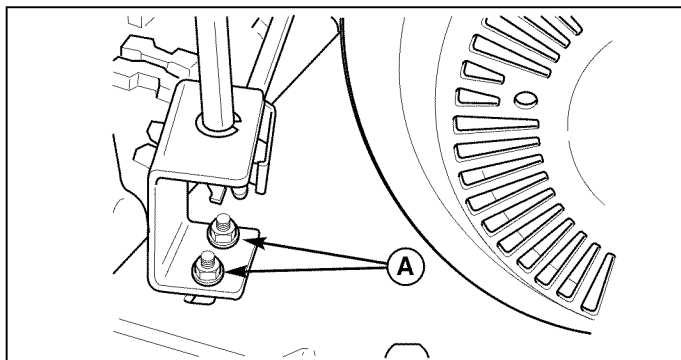

Figure 23. Gear Bracket Adjustment
1. Loosen the gear bracket mounting nuts (Figure 23).